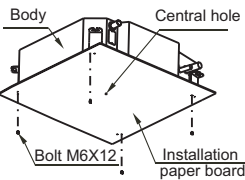

Fig.5-8
- 2 After installing the body, please fasten the installation paper board onto the air conditioner with bolts(M6X12) to determine in advance the sizes and positions of the hole opening on ceiling.(refer to fig.5-8)